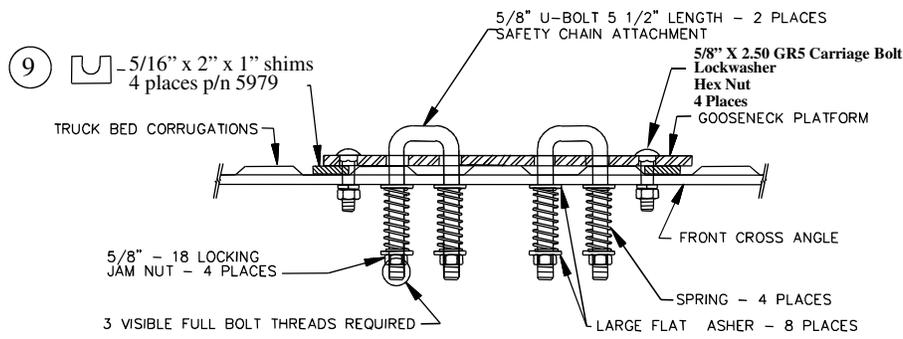

Figure 11
19. **For 6300/630044 and 8339 Installations:** Install the (2) safety chain U-Bolts through the hitch and from under the vehicle install the large flat washer over the U-Bolt followed by a spring, another large flat washer and secure with a thin 5/8" jam nut (see Figure 11). Repeat for the other legs of the U-Bolts. The 5/8" jam nuts are tightened until (3) threads are visible past the bottom of the jam nut.